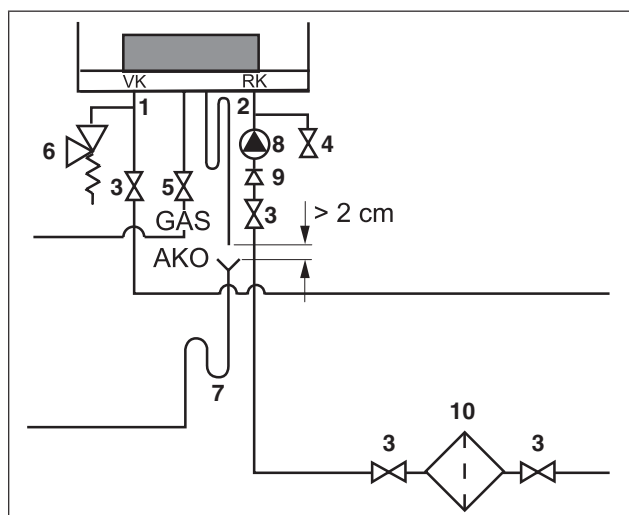

fig. 15 Connecting
- Install a 4-bar pressure relief valve (fig. 15, **item 6**) with a minimum passage of 1" in the flow circuit. Make sure that the pressure relief valve is always installed between the boiler and the isolating valve, so that the boiler will always be in contact with the pressure relief valve, even if the isolating valves are closed.
- Install the pump (fig. 15, **item 8**) in the return circuit (fig. 15, **item 2**).